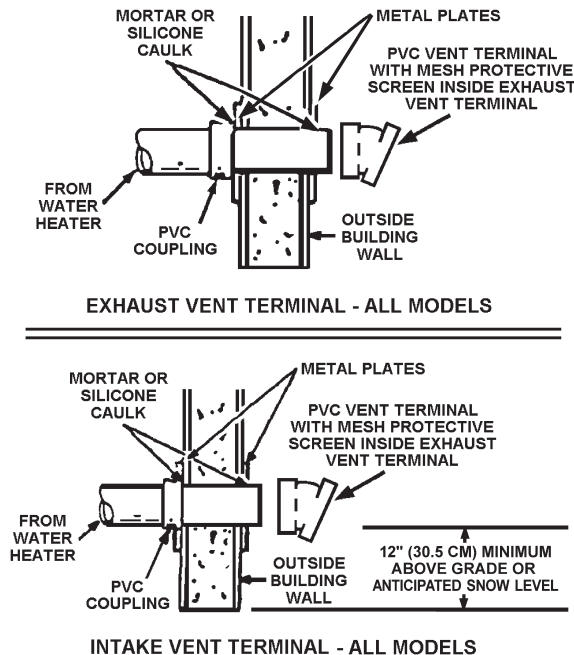

FIGURE 19.
- If the vent pipe is installed up to the wall, with a coupling on the end against the wall opening, the pipe with the vent terminal can be prepared for gluing before inserting through the wall. Slide the pipe through the wall and insert into coupling on the other side of the wall, making sure that the vent terminal ends up pointed in the correct position (Figure 19).